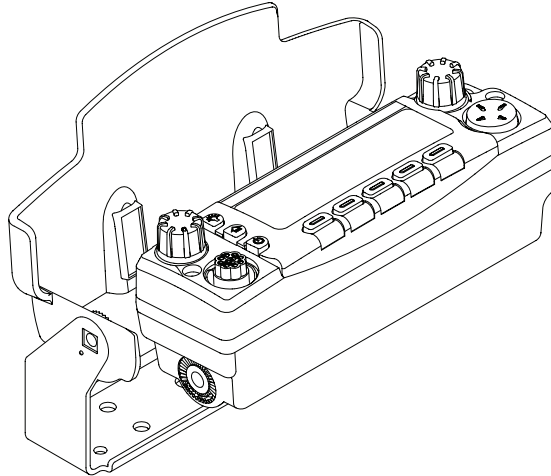

Figure 5-20. Slide the Control Head onto Trunnion
3. Slide the control head onto the trunnion while aligning the edge of the control head with the edge of the sunshield as shown in Figure 5-20. Make sure the Velcro properly adheres to the control head.